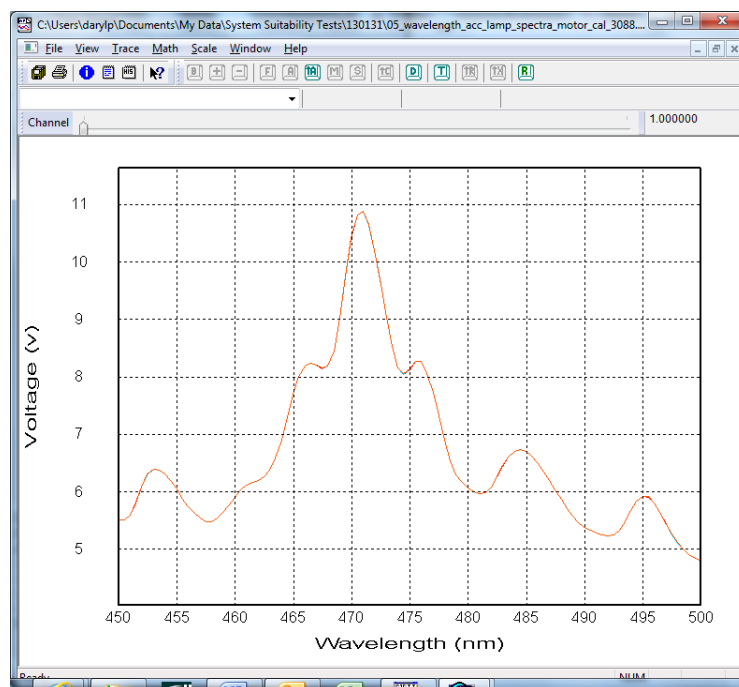

Figure 2.1 - Spectrum of a xenon lamp from 450 - 500nm
4. Acquire a spectrum running from 450 - 500 nm with a step of 1 nm and a sampling rate of one point per 0.1 s. The spectrum should look like that below (Figure 2.1).